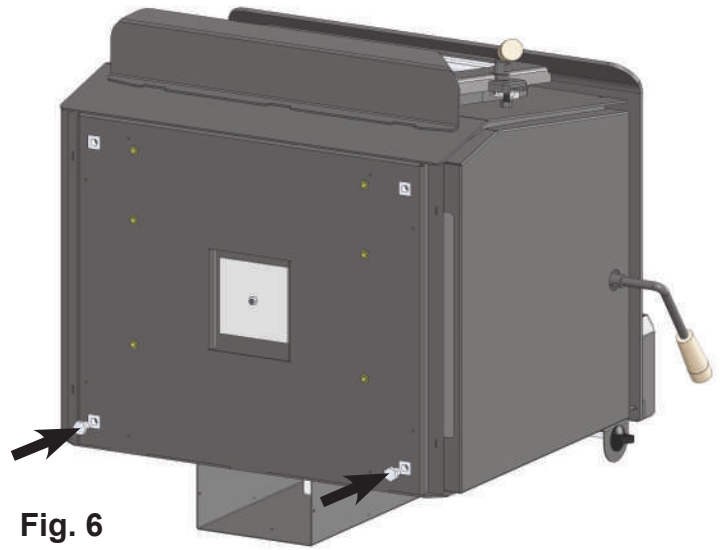

Fig. 6
2. There are two 1/2" x 1/2" long bolts supplied with the classic base kit, thread them as shown, leave approximately a 1/4" of thread showing. (Fig. 6)